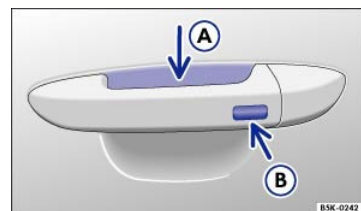

Fig. 57 Keyless Access system: Unlocking and locking sensors on the outside door handle.
Key to ⇒ Fig. 57 :
- Touch the lock sensor surface in the door handle on the driver or front passenger door → Fig. 57 *one time*. The vehicle is locked. The door being locked must be closed.
- Within 5 seconds, touch the lock sensor surface on the door handle on the driver or front passenger door → Fig. 57 *one time*.
To use the convenience closing feature to close all power windows and the power sunroof, hold your finger on the lock sensor surface on the outside of the door handle → Fig. 57 *one time* for a few seconds until the windows and the power sunroof close.